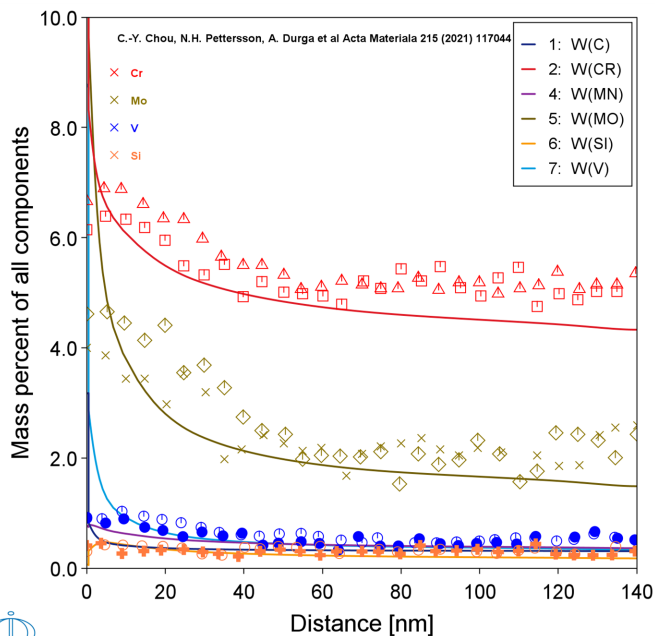

Figure 88: The simulated segregation profile with overlaid experimental STEM-EDS line scans from C.-Y. Chou et al. [2021Cho].
The calculated segregation profiles are finally compared with the STEM-EDS line scans as shown in Figure 88.
- **Plot results:** After completing the set up and performing the calculation, to view the matching name of the node on tab(s) in the **Visualizations** window, click a **Plot Renderer** node in the **Project** window or click the tabs individually in the **Visualizations** window. See Figure 88.